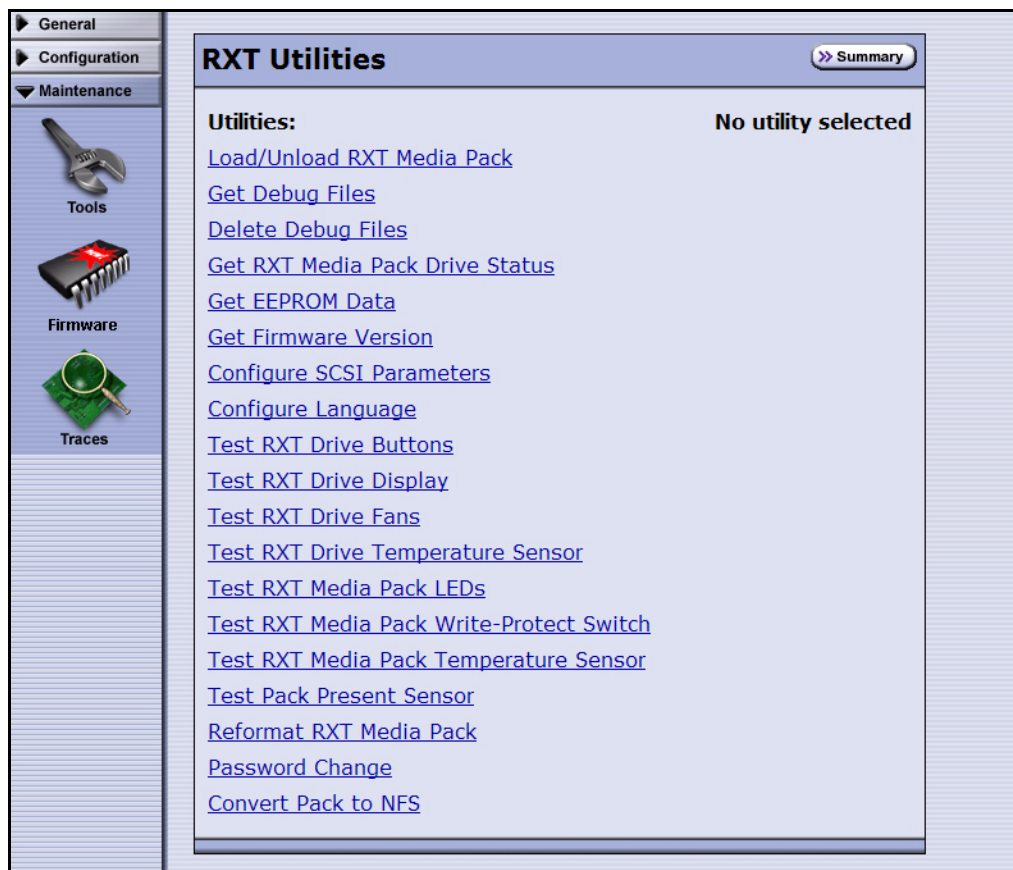

Figure 2-7 The RXT Utilities screen.
2. Select **Maintenance** → **Tools**; the RXT Utilities screen appears (Figure 2-7).